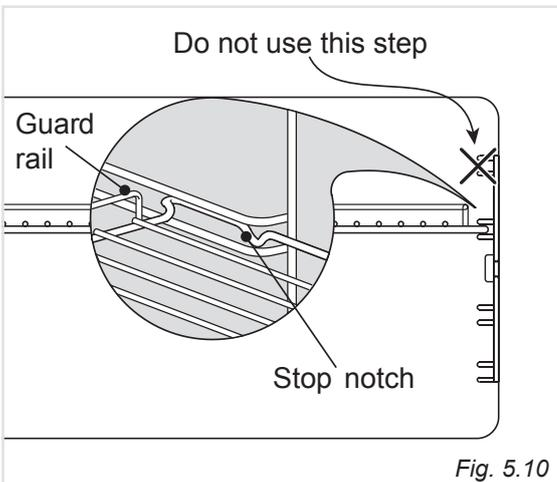

Fig. 5.10
- Slide in, on the guides, the shelf (fig. 5.10). Do not use the first step from the top. The shelf must be fitted so that the stop notch (which stops it sliding out) and the guard rail face the inside of the oven.